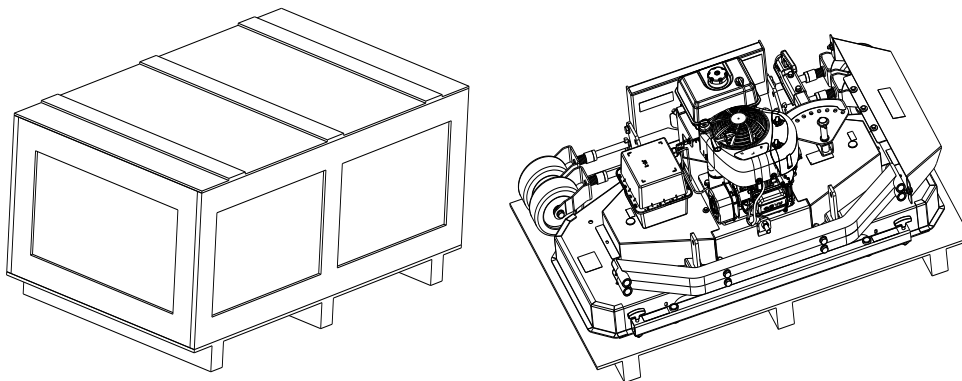

Figure 3: Your New Mower as It Is Shipped to You
1. Remove any loose parts or packaging, from the crate. See Figure 3